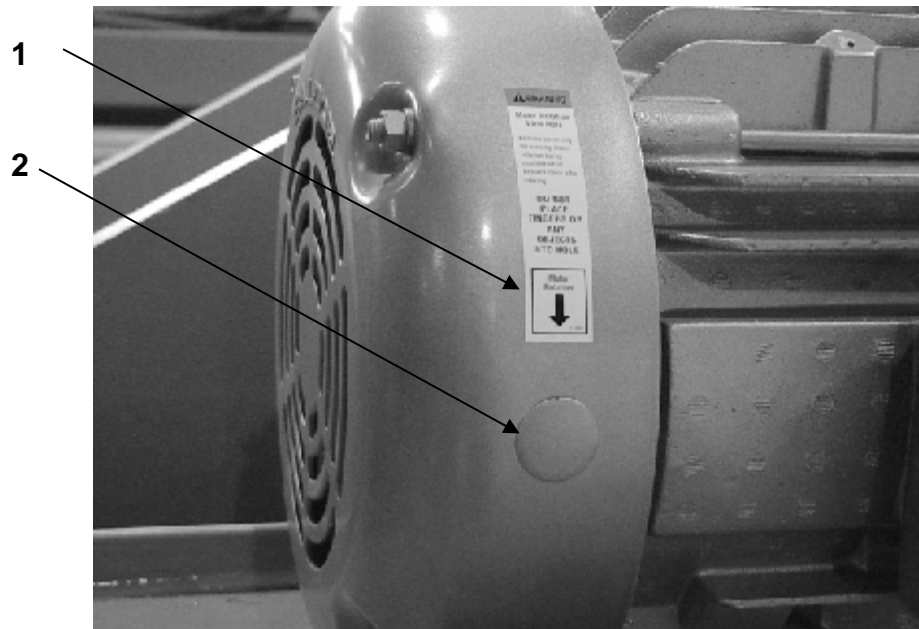

Figure 6: Motor Rotation Viewport
Electrical connection of the 3-phase systems requires proper phasing. When connecting the press to a 3-phase power source, the rotational direction of the pump drive motor must be correct. . The motor must rotate in the direction of the arrow on the electrical motor (*See Figure 6*). A licensed electrician should perform all electrical connections.
1. Locate the pump case drain port (*See Figure 6 Item 3*).